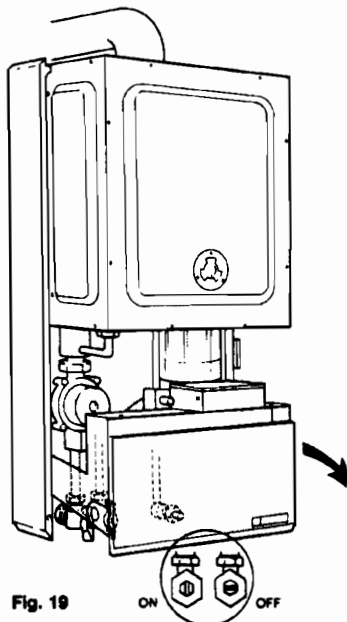

Fig. 19
5.7.2 To gain access to the electrical terminals hinge down the spring loaded control fascia. (ref to fig 19) until it rests in an approximately horizontal position.